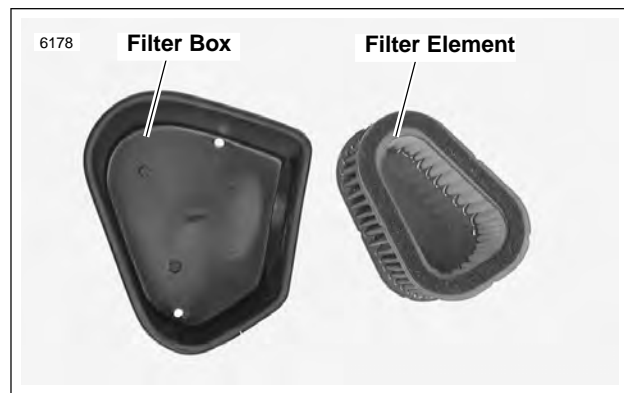

Figure 1-44. Filter Element
5. See Figure 1-44. Remove the filter element (2) from filter box (1). Inspect and replace if necessary.
3. See Figure 1-44. Place filter element (2) in filter box (1). Attach filter box to snorkel.